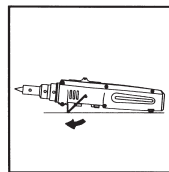

Fig. 6
2. If you need both hands free for the work to be done, all you have to do is unfold the support to make the soldering iron stand. See Fig. 6.